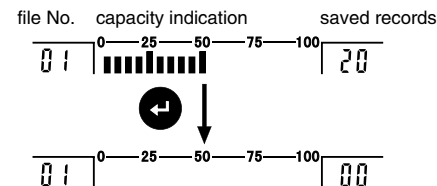

Figure 3-1-2 File deletion process
- The deletion process is dynamically displayed in the light pillar area, right and left reading area. (As figure 3-1-2)